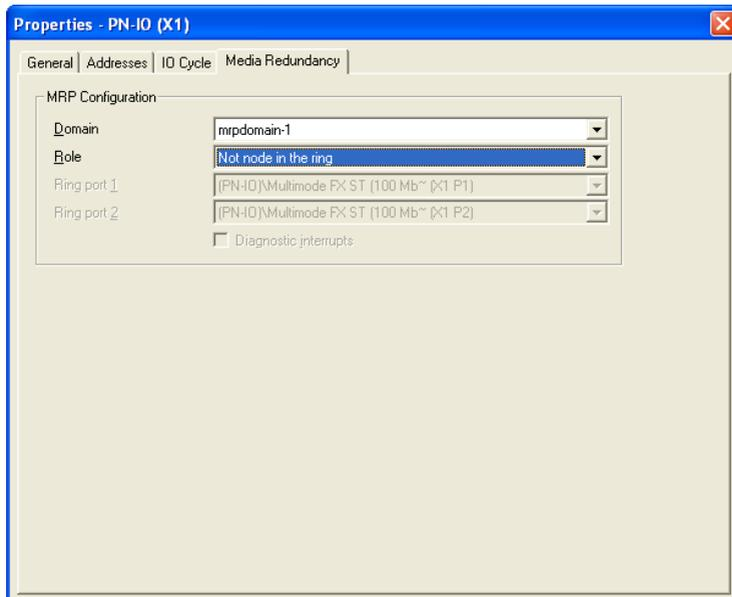

Figure 13: Dialog for entering the Media redundancy
- Under MRP Configuration/Domain , select the required MRP domain for the node (see figure 13).
- Under MRP Configuration/Role , select the required role of the node in the ring (see figure 13).